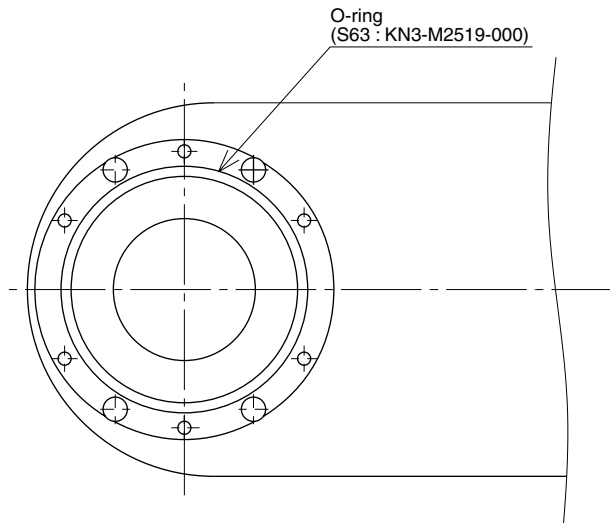

Fig. 5-9
AN O-RING IS FITTED TO THE X-AXIS HARMONIC DRIVE, SO BE CAREFUL NOT TO LET IT DROP INTO THE PERIPHERAL UNIT. (SEE FIG. 5-9.)
13) Fit a new O-ring coated with harmonic grease into the O-ring groove on the X-axis arm. (See Fig. 5-9.)